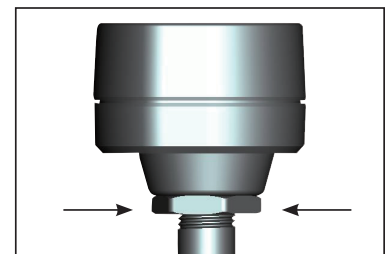

Figure 3
3. Apply soapy water on the valve stem and lock nut. If bubbles appear, re-install the lock nut and sensor. If no bubbles appear, installation is successful (Figure 3).